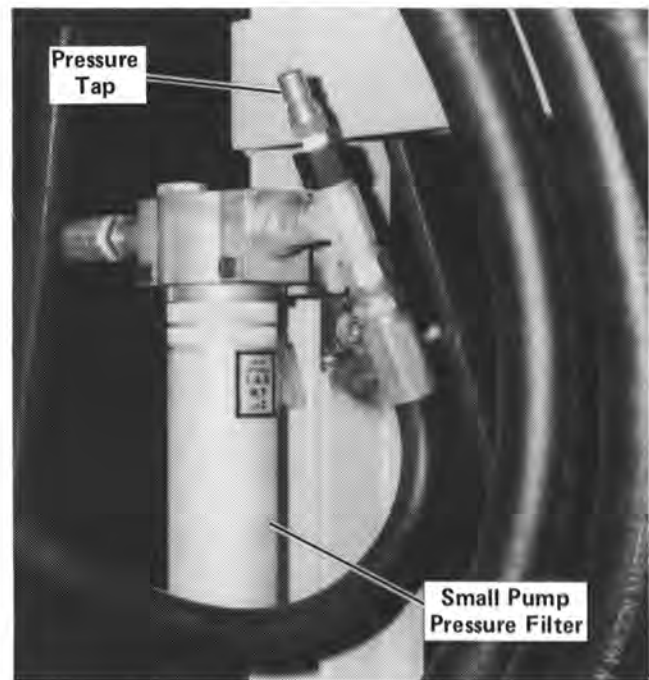

Figure 26
1. Install the pressure gauge on the pressure tap at the small pump pressure filter as shown in Figure 26.